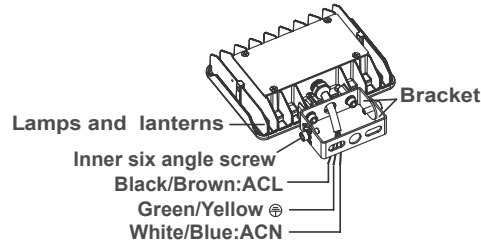

Fig. 2.4
2. Mark and drill holes in wall or mounting surface and connect bracket. Connect power supply wires in junction box while observing Line 1 and neutral polarity. Ensure proper grounding (Fig 2.4, 2.5).